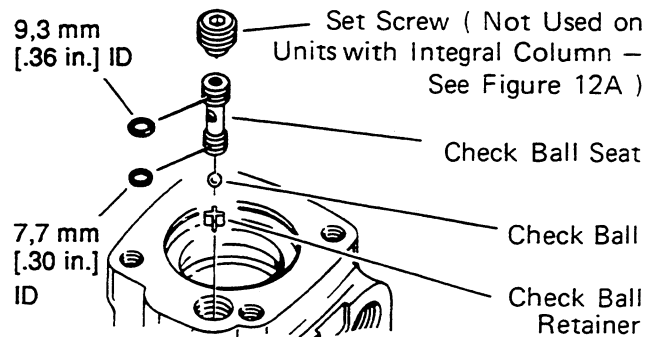

Figure 12
- 1 Use a needle nose pliers to lower check ball retainer into check valve hole of housing. Make sure retainer is straight (not tilted on edge) in housing, see Fig. 12.
- 3 Lubricate 9.3 mm [.36 in.] ID seal and 7,7 mm [.30 in.] ID seal. Install seals on check ball seat as shown in Fig. 12.
- 4 Lubricate check ball seat and seals thoroughly before installing seat in housing. When installing seat do not twist or damage seals. Install check ball seat in housing, insert open end of seat first, see Fig. 12. Push check ball seat to shoulder of hole.